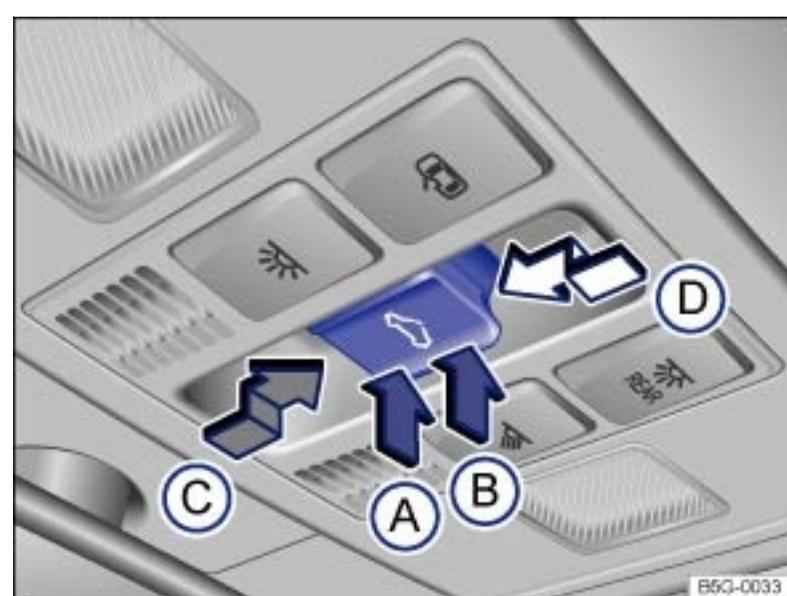

Fig. 36 In the headliner: Power sunroof switch.
The  switch → Fig. 36 has 2 detents for each switch position (Ⓐ, Ⓑ, Ⓒ, and Ⓓ), which are described in the following table.
Function	Action → <a href="#">Fig. 36</a>
- ▶ Press the  button → Fig. 36 within about 5 seconds after the sunroof has stopped and hold it in the direction of the arrow  at the second detent until the power sunroof closes completely.